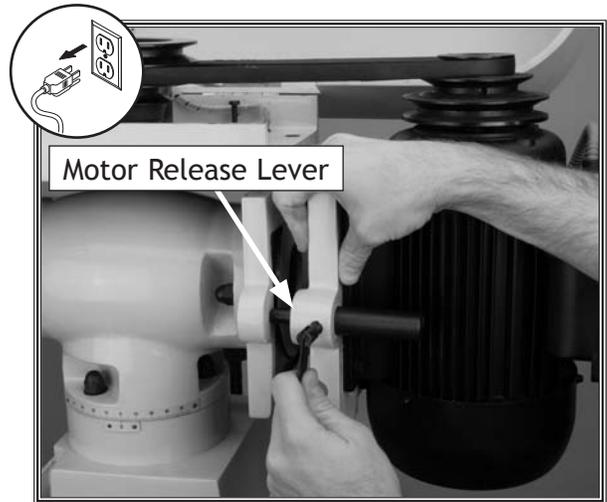

Figure 25. Applying tension to V-belts.
6. Tension the V-belts by pulling the motor back and locking the motor release lever (see Figure 25).